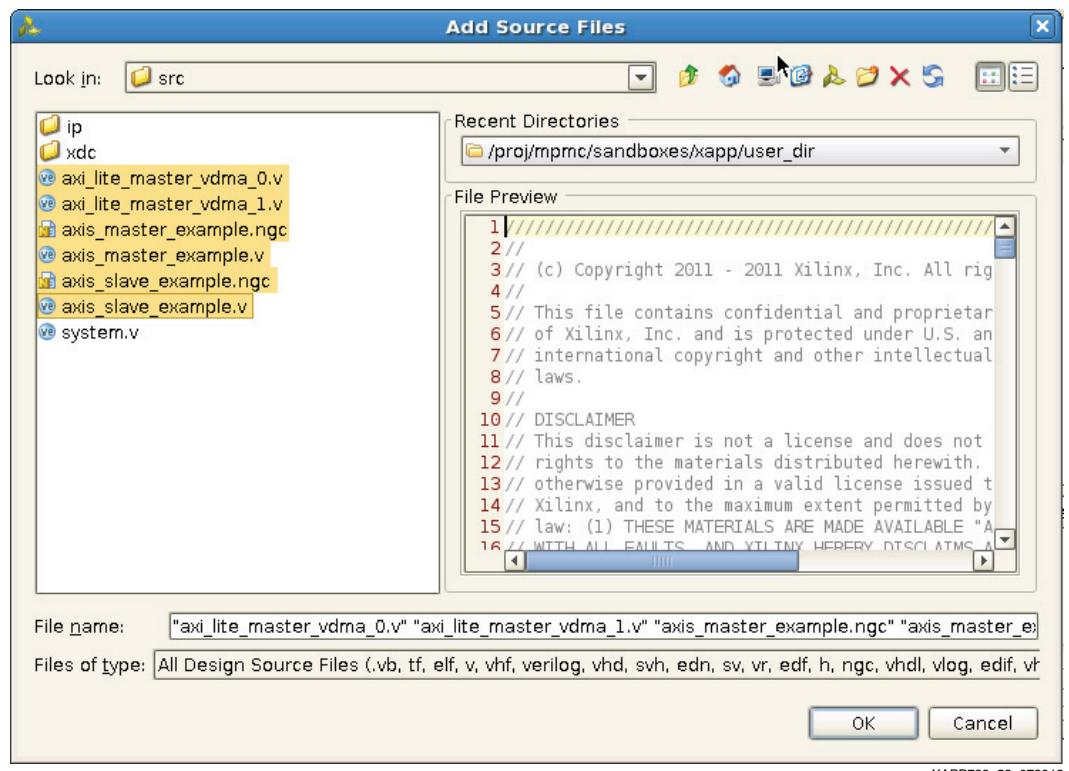

Figure 58: Add Source Files Browser
52. In the Add Source window, browse to the <design_dir>/src/ directory and add the files listed in Table 1 (Figure 58).